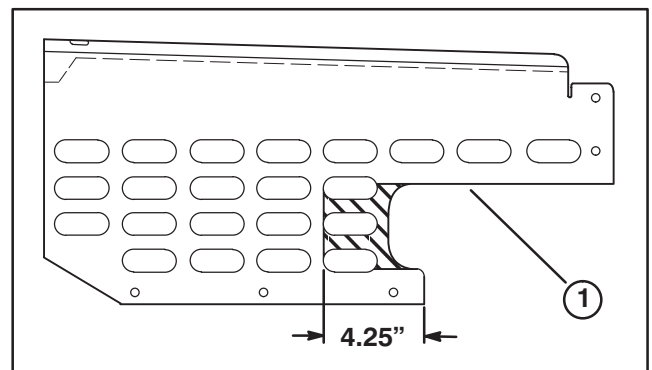

Figure 13
17. Using dimension shown in figure 13, cut away shaded area in lower shroud to fit new muffler exhaust port location. Reinstall shroud.